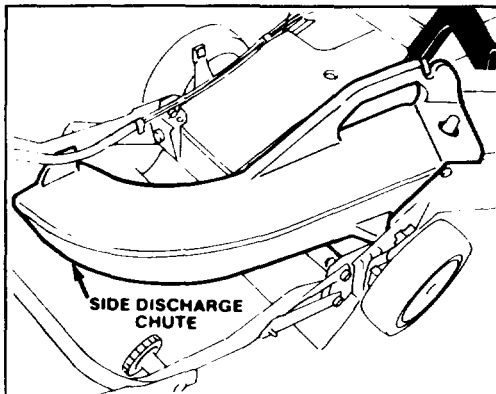

Figure 33
1. **Side Discharge Kit, Model No. 59168**—Installs in seconds. Rear mounted in place of the grass bag or discharge plug. Disperses clippings while trimming on both sides (Fig. 33).